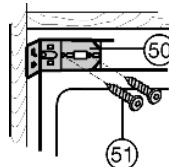
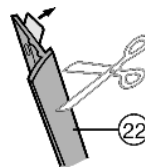

Fig. 16
Fig. 17
- Loosely screw *Fig. 16 (51)* the mounting bracket *Fig. 16 (50)* to the appliance through the oblong holes.
- Remove the protective film from the trim *Fig. 17 (22)*. Apply the strip to the bottom edge of the mounting bracket *Fig. 16 (50)* on the side wall of the appliance on the handle side and flush with the front and glue on.
- If necessary, shorten the trim *Fig. 17 (22)* to the height of the recess.*